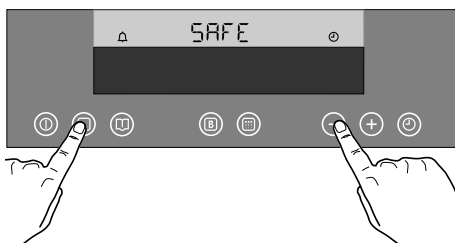

Fig. 17
1. Press controls  and  at the same time and keep them pressed for about 3 seconds. The Electronic Control beeps once and the message 'SAFE' appears in the display (Fig. 17).